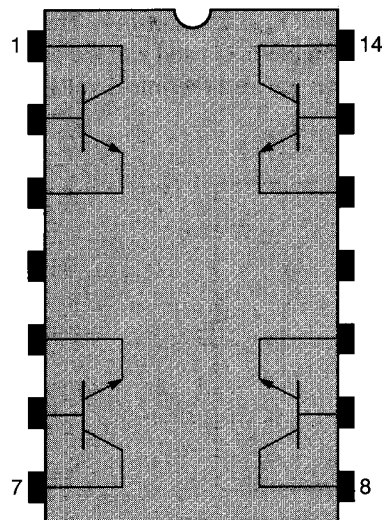

FIGURE 6.34
**Integrated transistors** come in packages that house more than one transistor in integrated form. You may recall that ICs contain more than one device in a single casing. Figure 6.34 shows a typical IC transistor casing. Note that the package contains four individual transistors.
The primary advantage in using integrated transistors is that several transistors can be housed in a single, relatively small package. For example, the IC represented in Figure 6.34, called a *dual in-line package (DIP)*, would have the dimensions shown in Figure 6.38a. As the chart indicates, the IC has maximum dimensions of approximately  $18.8 \times 6.6 \times 4.7$  mm. As a comparison, a *single* 2N3771 power transistor, as shown in